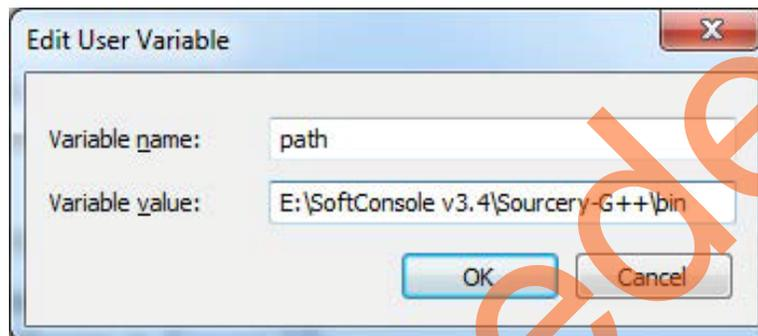

Figure 1 • Adding SoftConsole Installation Path
2. Add the SoftConsole installation path, for example, `C:\Microsemi\Libero_v11.6\SoftConsole\Sourcery-G++\bin`, to the ‘Environment Variables’ as shown in Figure 1.